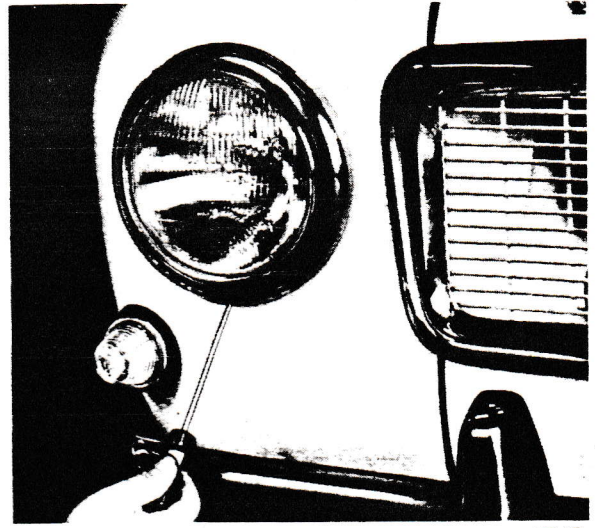

Fig. 76. Removing the headlamp rim
1. Unscrew the headlamps rim screw, see Fig. 76. Lift off the rim by pulling out the lower part slightly and then lifting it upwards.
1. Remove the headlamp rim and retaining ring as shown in Figs. 76 and 77.